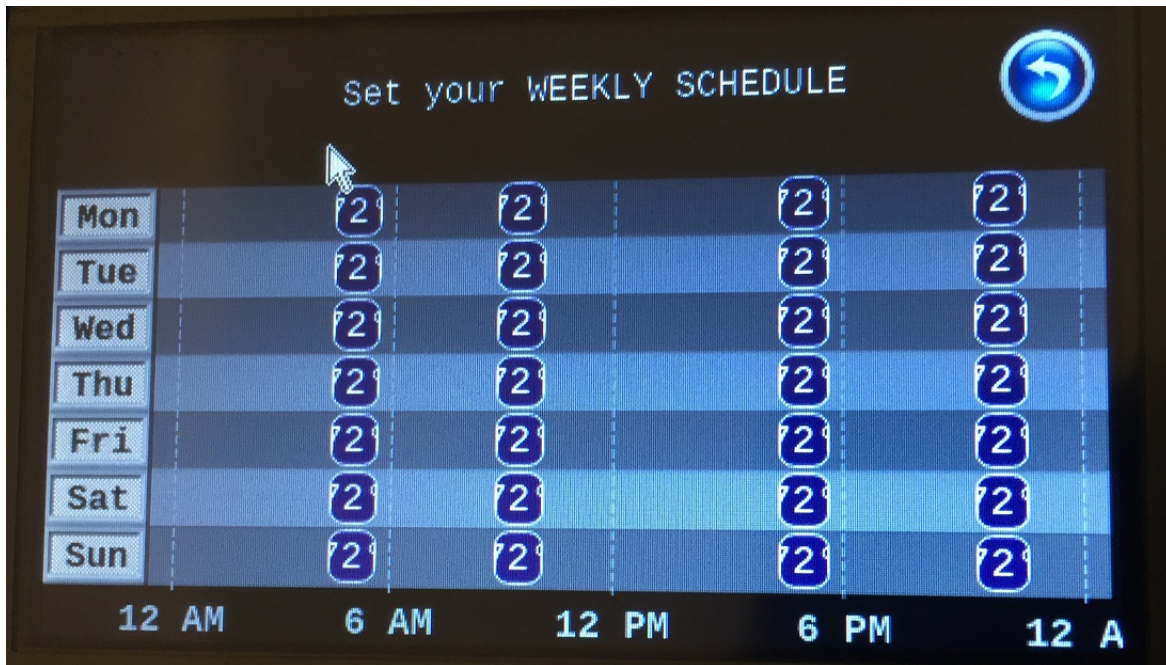

图 11. Smart Thermostat Demo GUI: Weekly Schedule Screen
6. The Scheduler icon in 图 9 leads to the weekly schedule screen shown in 图 11.